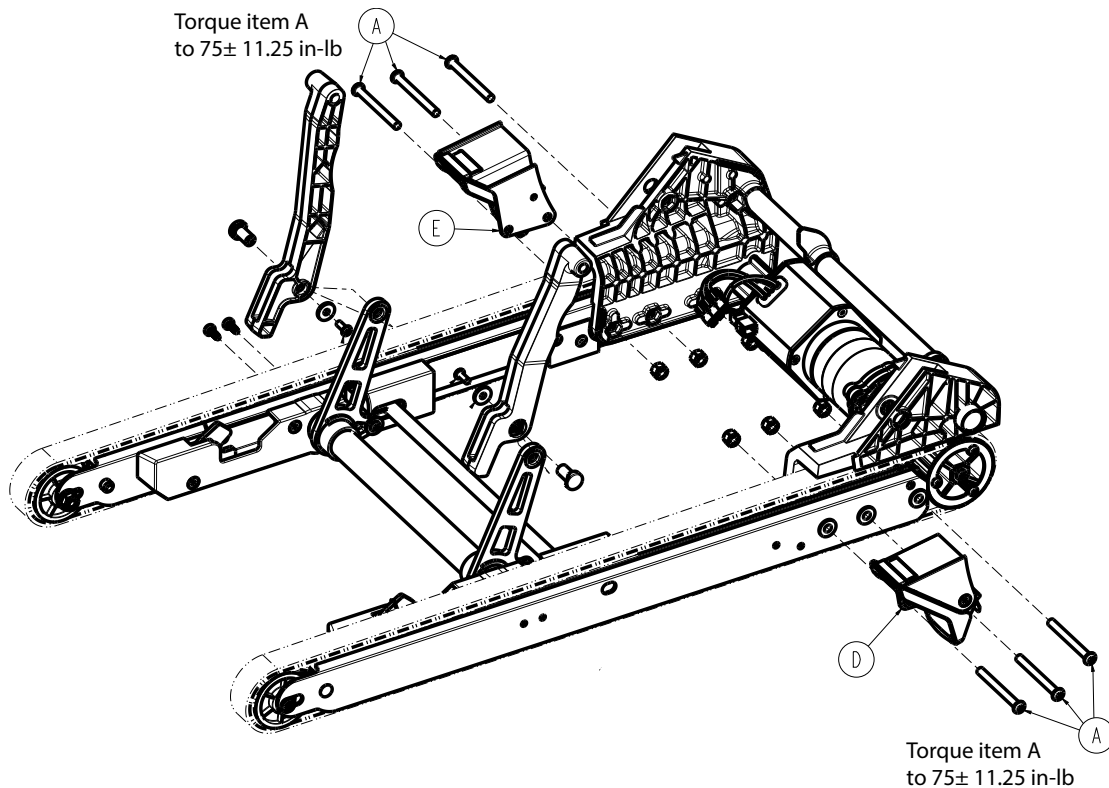

Figure 22 –
- On the left side, turn the track tension cam (AG) clockwise to loosen.
- On the right side, turn the track tension cam (AG) counterclockwise to loosen.
- Using a torque wrench, torque the flanged Nylock hex nut (AF) to 50 ± 7.50 in-lb when you reinstall.
- Using a torque wrench, torque the track tension bolt (AE) to 120 ± 18.75 in-lb when you reinstall.
8. Using one hand, push to remove the track tension pin (P) (Figure 22). Save the track tension pin.
9. Using a T27 Torx driver, 3/8" drive ratchet, and a 3/8" drive 3" extension, loosen both button head cap screws (A) that secure the brake assembly (D or E) to the track assembly (Figure 22).
10. Remove the button head cap screw (A) closest to the caster assembly (Figure 22). Save the screw.